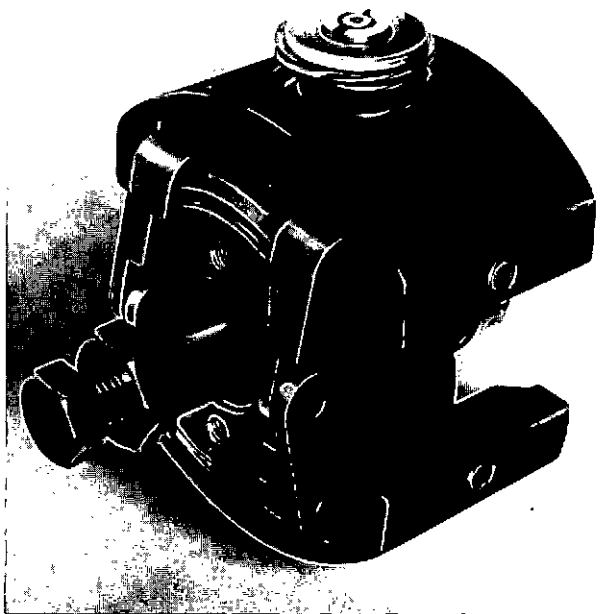

Fig. 43 Flyweight unit and extractor.
3. Clamp the camshaft at its drive end and, using spanner 1 687 950 064, remove the flyweight assembly retaining nut and, if applicable, end float adjusting washer. Use extractor 1 680 363 001 (fig. 43) to withdraw the flyweight assembly from the taper on the pump camshaft.